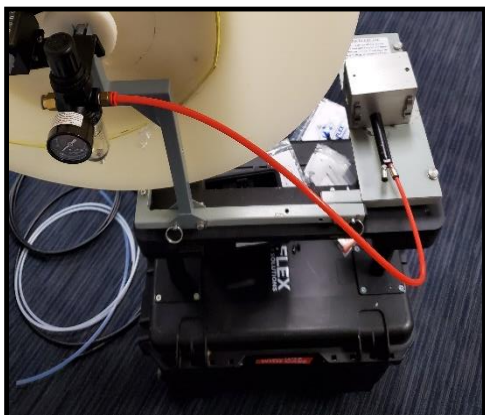

Figure 14
8.7 Push-fit 1/4” Red tubing between 1/4” Red outlet fitting on Filter/Regulator Assembly and 1/4” Red “F”/Inlet fitting on Blowing Head Air Motor. (“F”/Inlet fitting is typically identified with red paint mark.) **See Fig. 14 and Fig. 15.**